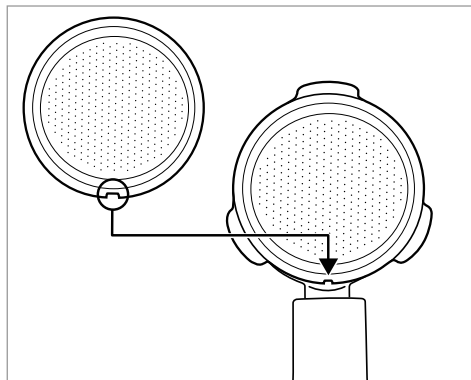

Figure 2
- 2) Place either the large **(19)** or the small espresso sieve **(20)** in the portafilter (see Figs. 2 and 3):